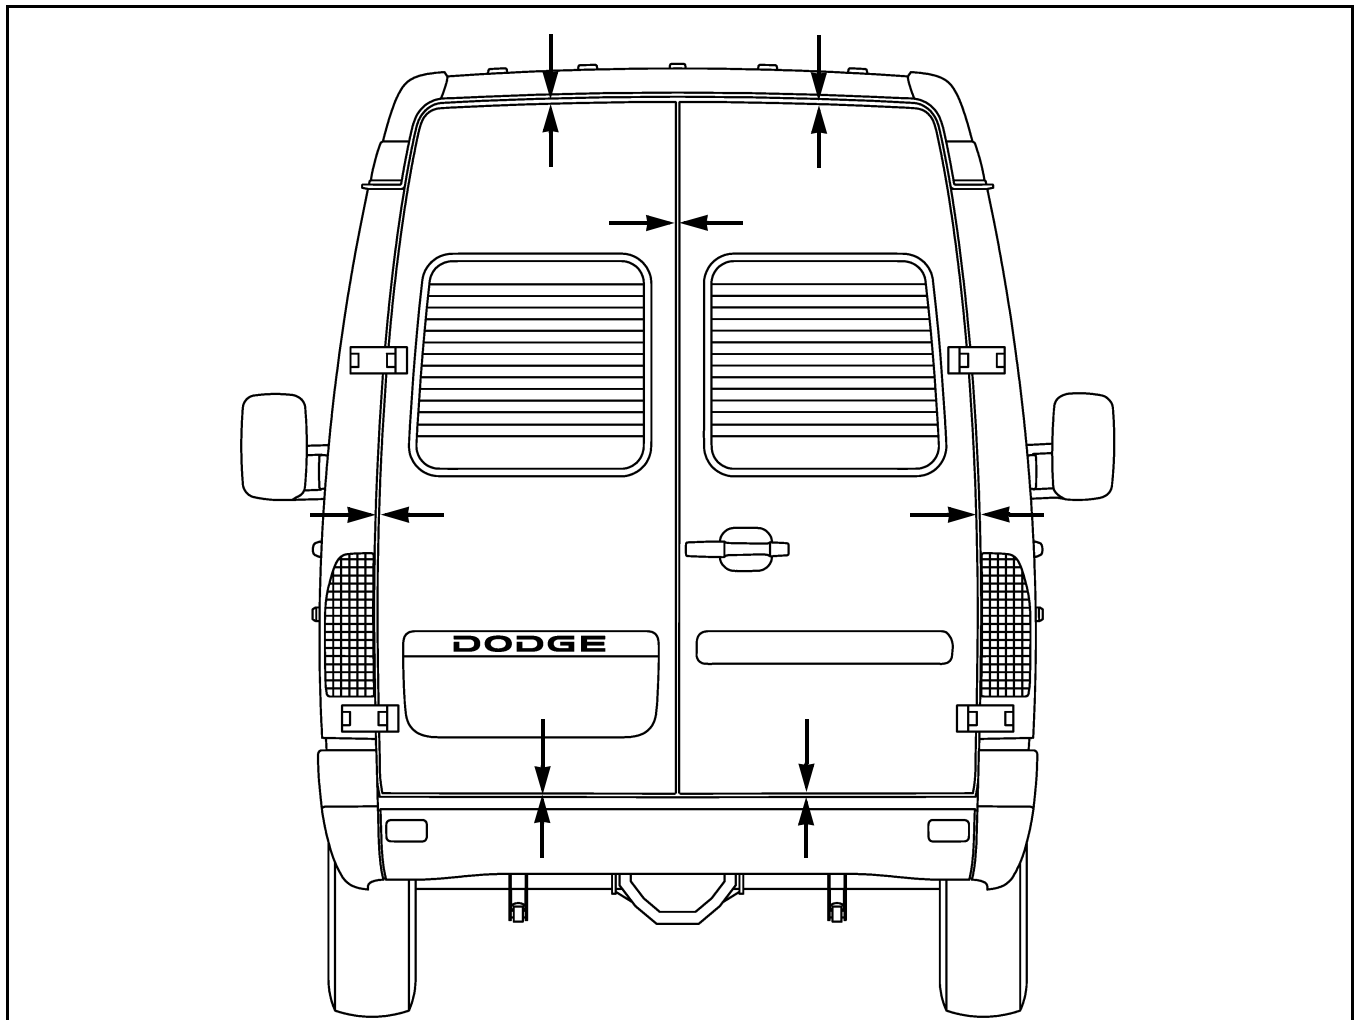

Figure 17 Rear Door Gap Measurements
1. Check door gap around rear doors (Figure 17). The door gap all around except at the top should be  $8\text{ mm} \pm 0.5$  ( $0.315\text{ in} \pm 0.019$ ). The door gap at the top should be  $13\text{ mm} \pm 0.5$  ( $0.512\text{ in} \pm 0.019$ ).